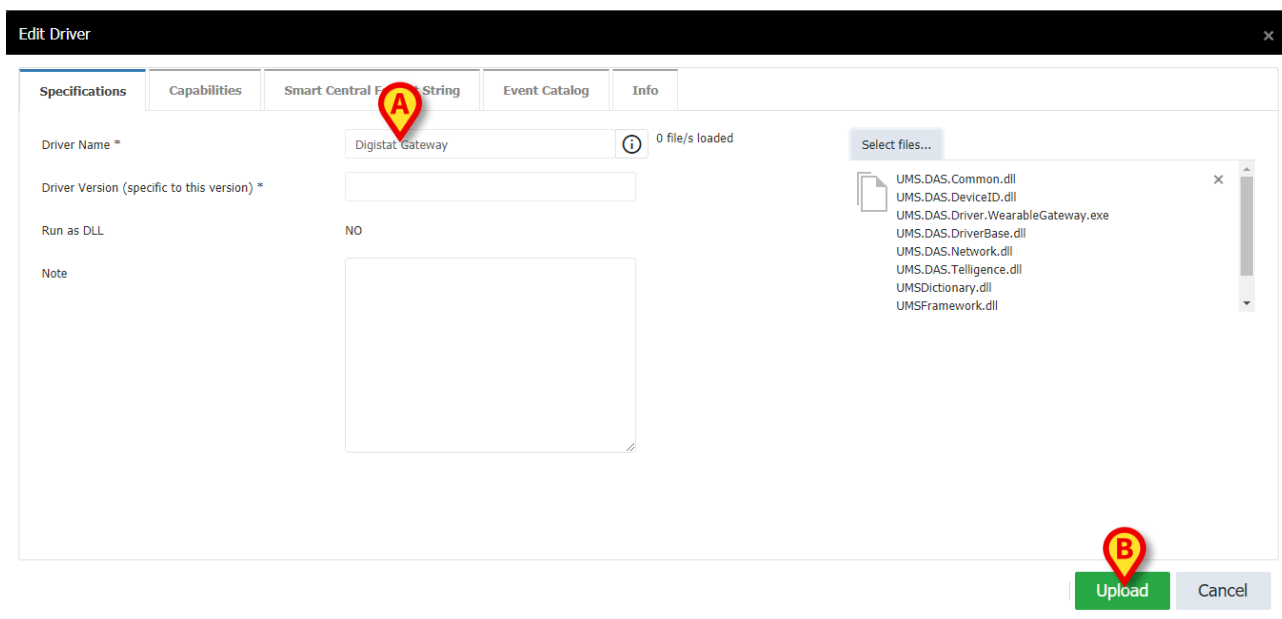

Fig 20
The **Edit Driver** window opens (Fig 20).
- Set the driver name as “Digistat Gateway” (Fig 20 **A**) and upload the files from the server workstation “C:\Digistat\Server\Drivers\DigistatGateway” folder by clicking the **Upload** button (Fig 20 **B**).